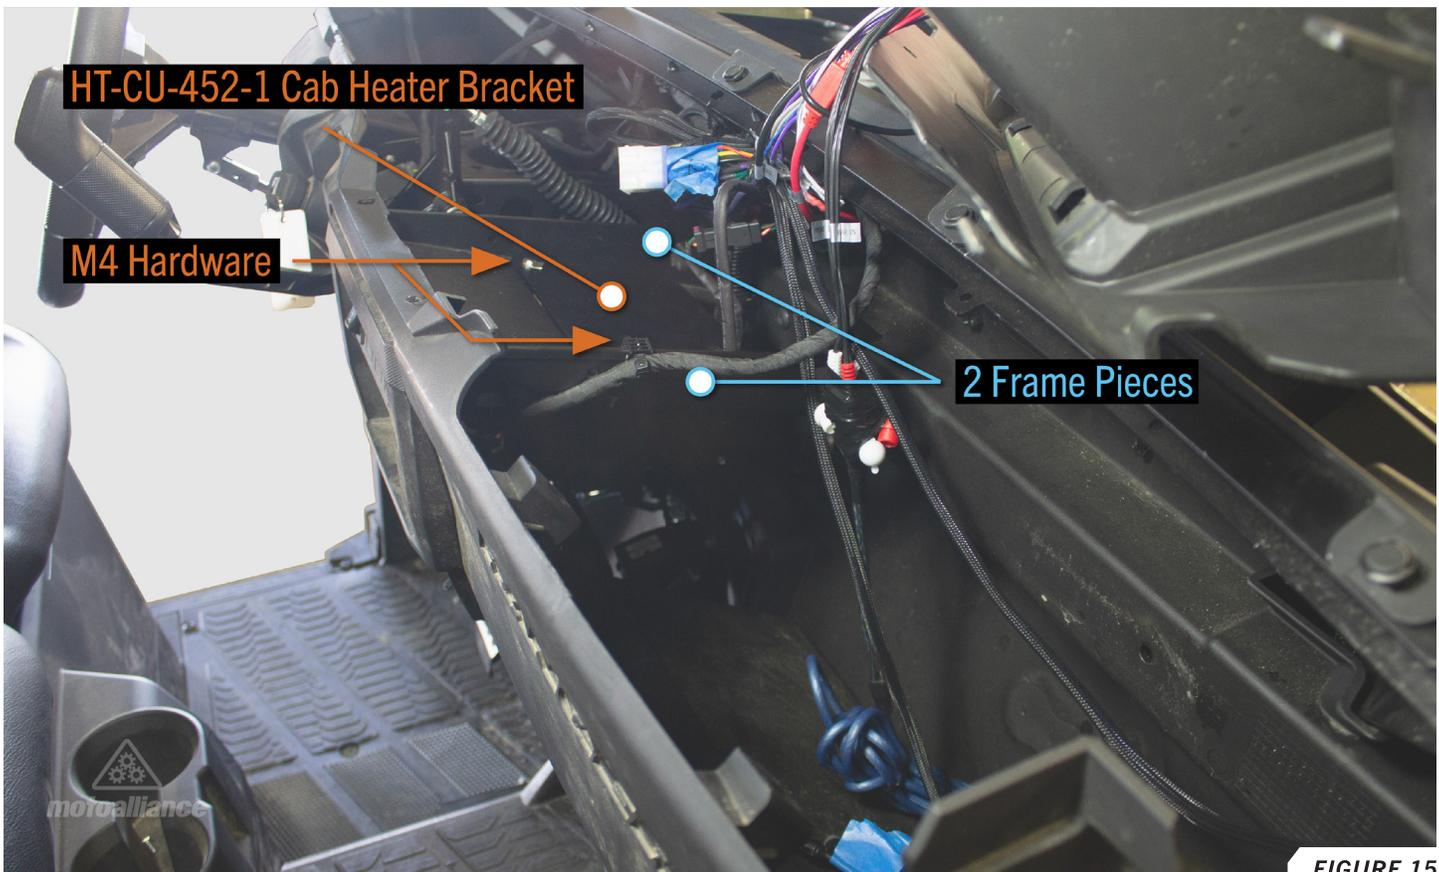

FIGURE 15
28. Attach the HT-CU-452-1 Cab Heater Bracket to the 2 frame pieces in the dashboard cavity using the provided M4 hardware. *FIGURE 15*